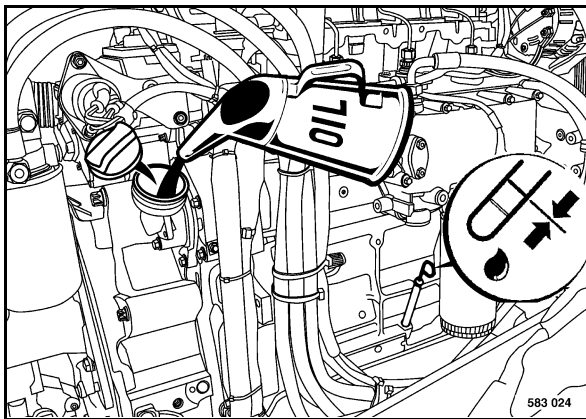

Fig. 122
- Pull the dipstick (Fig. 122) out, wipe it off with a lint-free, clean cloth and reinsert it until it bottoms.